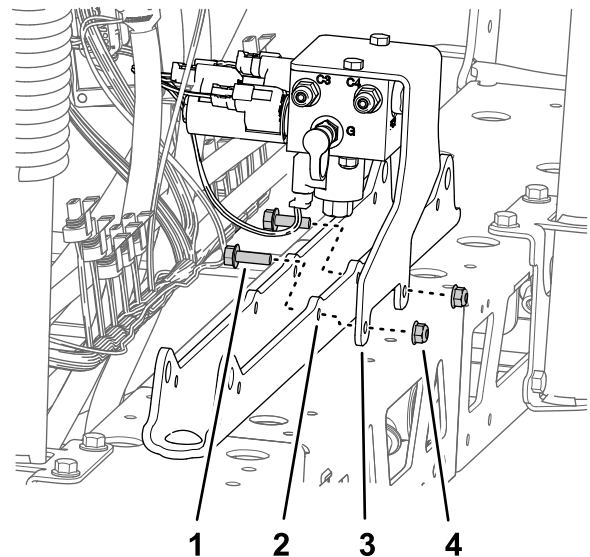

Figure 96
- Align the holes in the support bracket for the section-lift manifold with the holes in the cylinder mount (Figure 96).
- Assemble the support bracket to the cylinder mount (Figure 96) with the 2 flange-head bolt (5/16 x 1 inch) and flange locknut (5/16 inch) that you removed in step 1 of Removing the Section-Lift Manifold from the Center-Spray Section (page 26).